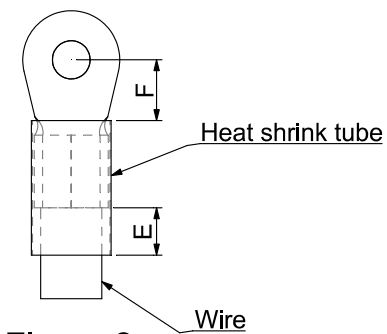

Figure 2.
- After crimping the wire to the ring lug (must UL approved), UL and CSA approved R/C (YDPU2) heat shrink tubing rated min 600Vac insulation shall be install over the live part. Please refer to the following figure 2.